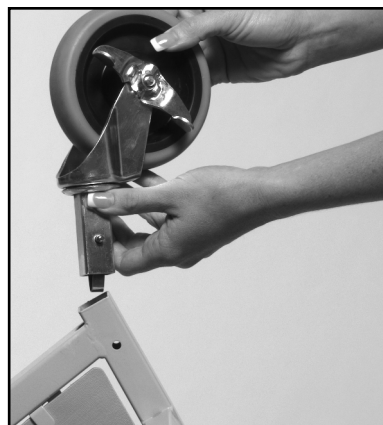

Figure 3
3. Insert locking caster assemblies into rear legs of recliner frame until spring buttons pop out of the openings of each side (Fig. 3).